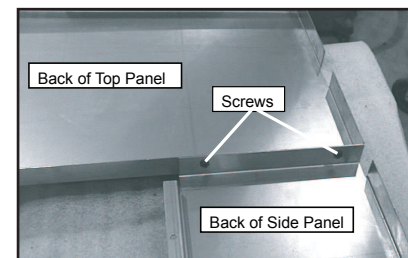

Figure 22.3
1. Secure the top panel to the surround sides with the screws provided. **Figure 22.3.**